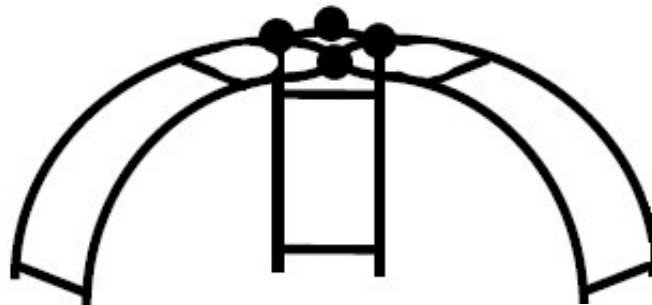

Figure 3: Gazebo Curves once connected
- Once completed the curves will form a structure as shown in Figure 3.